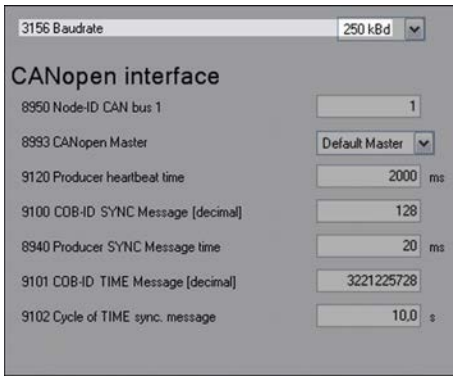

Fig. 189: Baud rate configuration (example ToolKit)
1. In ToolKit configure the baud rate as shown in ( Fig. 189).